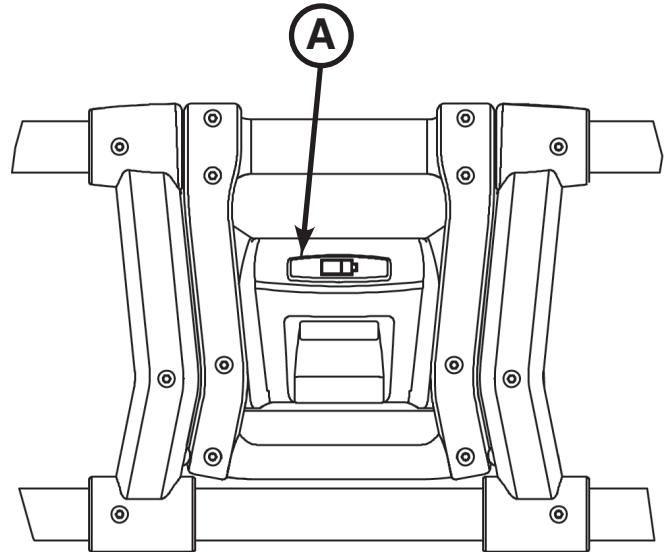

Figure 32: Battery Power LED Indicator
To check the battery power level, press the retract (–) button (2) on the cot control switch to activate the cot battery LED indicator (A) as shown in Figure 32.